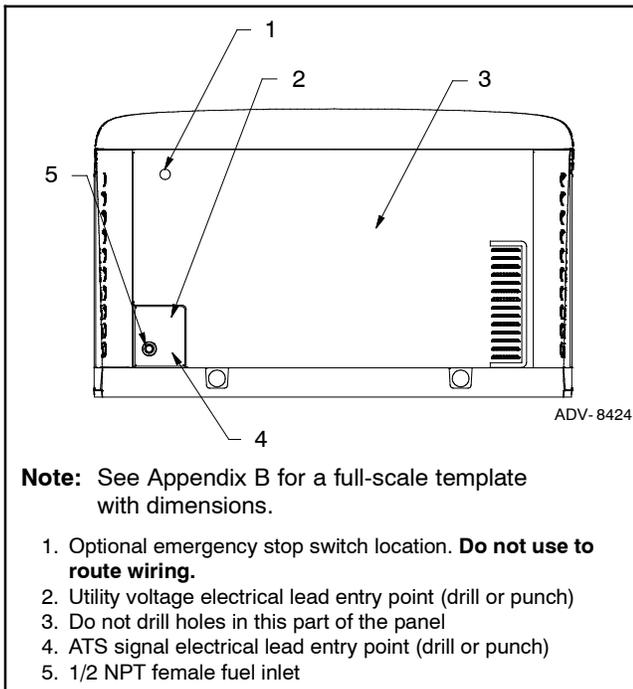

Figure 1-22 Electrical Lead Entry Locations
Drill or punch holes in the enclosure for the electrical conduit in the locations shown in Figure 1-22. A full-scale dimensioned template for the hole locations is printed in Appendix B. See page 69.
1. Drill holes for the conduit fittings. See Figure 1-22 and Appendix B for the recommended electrical inlet locations. Feed the cables through the openings.